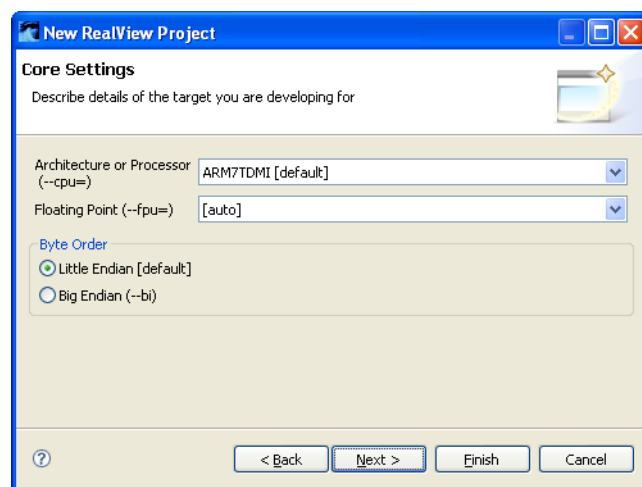

Figure 3-5 Fine-tune target settings
5. Figure 3-5 shows the Core Settings dialog box. Select **Architecture or Processor** (`--cpu=`), **Floating Point** (`--fpu=`) and **Byte Order**. Click on **Next**.